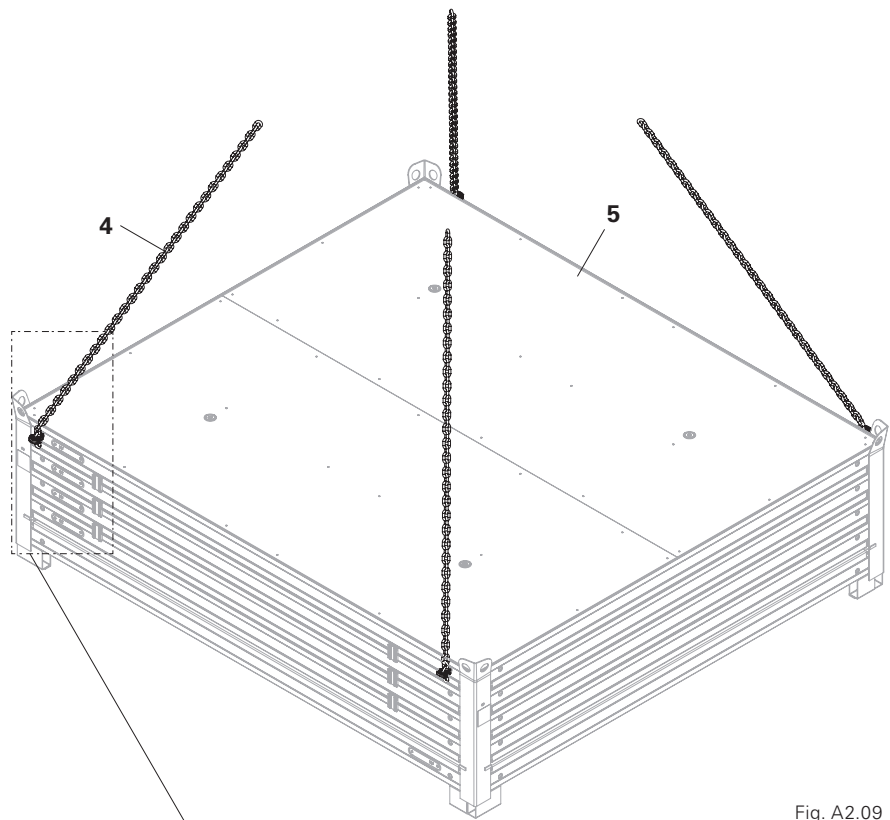
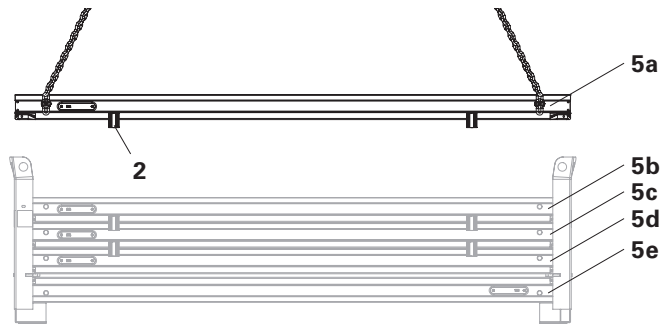
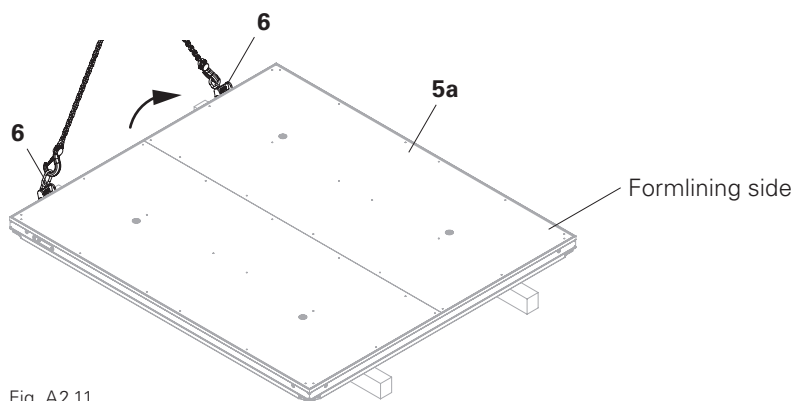
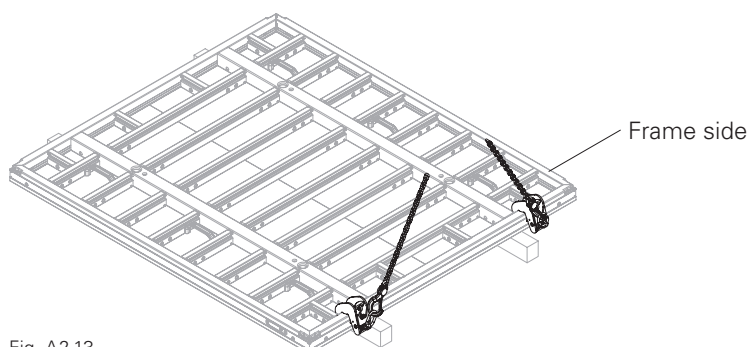

Fig. A2.09
Fig. A2.10
Fig. A2.11
Fig. A2.13
- ⇒ Do not attach the lifting hooks until the panel is on the ground! (Fig. A2.11)
- Remove Panels MX-2 (5) individually or max. 4 Panels MX-2 (5) as a stack from the Stacking Devices MX (1). (Fig. A2.10)
- Turning the Panels MX-2 (5) over is only necessary if the formlining side is facing upwards after it has been lowered. (Fig. A2.09)
2. Insert the locking pin (4.1) of the Lifting Gear MX (4) into the holes of the upper Panel MX-2 (5a) as far as it will go. (Fig. A2.09 – Fig. A2.10)
3. Attach Lifting Gear MX (4) to the crane.
4. Lift Panel MX-2 (5a) out of the Stacking Device MX (1). (Fig. A2.10)
5. Remove the Stacking Devices MX (2).
8. Attach Lifting Hook MX 1.5t (6) to Panel MX-2 (5a). (Fig. A2.11)
9. Turn the panel, i.e. use the Lifting Hooks MX 1.5t (6) hanging from the crane to pull it upwards until the panel is vertical and then slowly lower it onto the squared timber with the formlining facing downwards. (Fig. A2.11 – Fig. A2.13) Ensure that the chains are always tensioned.
2. Insert the locking pin (4.1) of the Lifting Gear MX (4) into the holes of the lowest Panel MX-2 (5ae) as far as it will go. (Fig. A2.09 – Fig. A2.10)
5. Remove Stacking Devices MX (1).